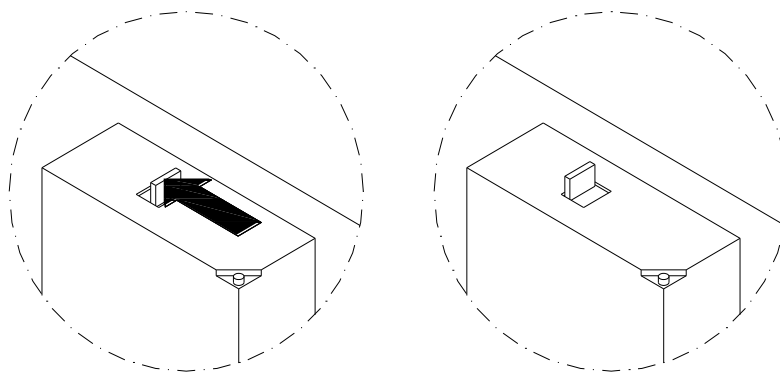

Figure 30 - Restoring the Monitoring Device
If a leakage is found through the pressure valve during an air pressure test, check carefully where the leakage happens. If the leakage is between the valve (Figure 30- n°2) and the lower cover (Figure 30 - n°1), check the tightening of the valve body to the lower cover from the outside of the fixture.
Unscrew the valve body with gasket from the outside of the lower cover (Figure 30- n°1) by clamping the hexagonal end section of the valve body. Screw the new valve on the lower cover; tightening torque is 0.35 Nm. Check the valve core (Figure 30 - °4) is tightened to the valve body (Figure 30 - n°2) and then screw its cap (Figure 30 - n°3). Reassembly the light unit following instructions of paragraph “Closing the Fixture”, “Leakage Test” and “Reinstalling the fixture”.
- restore the condition of proper functioning of the monitoring device as shown in Figure 30